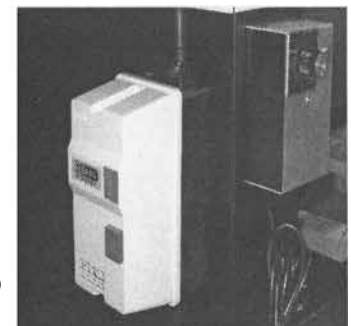

fig 5
Use (1) flat washer and nylon nut to secure the top screw using a 3/8" wrench. Repeat this for the bottom screw. Re-attach the front cover of the switch to complete the assembly. (fig 5). The switch will need to be reset anytime there is a power loss, failure or overload. The "Red" button is the reset. Simply push it to reset and push the "green" button to resume power.